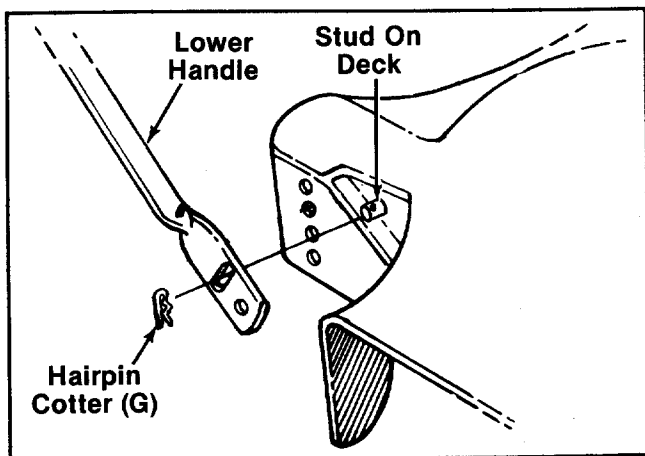

FIGURE 2.
- A (2) Curved Head Carriage Bolts 5/16-18 x 1.38 Long
- B (2) Lock Washers 5/16" I.D.
- C (2) Hex Nuts 5/16-18 Thread
- D (2) Cable Ties
- E (1) Hex Bolt 1/4-20 x 1.50" Long
- F (1) Hex Lock Nut 1/4-20 Thread
- G (2) Hairpin Cotters
- ← 3. Place **upper slotted** hole in lower handle over studs located in front of each rear wheel. Secure with hairpin cotter (G) provided in hardware pack. See figure 2.
Figure 2 is shown with the rear wheel removed for clarity. It is not necessary to remove wheel for handle assembly.